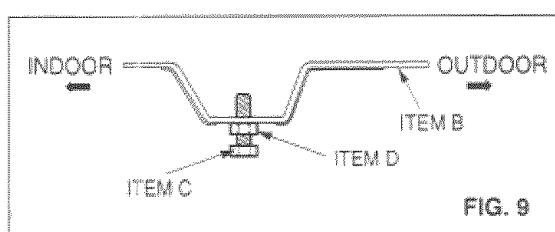

FIG. 9
- 7** Loosely assemble the sill supports using the parts in FIG. 9.